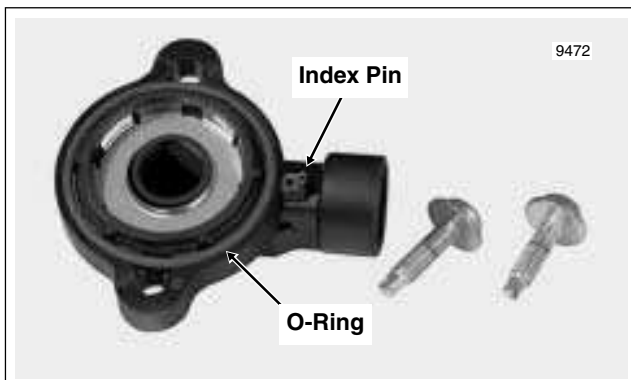

Figure 9-32. TP Sensor
1. Inspect O-ring in groove of TP sensor for cuts, tears or signs of deterioration. Install **new** O-ring if necessary. See Figure 9-32.